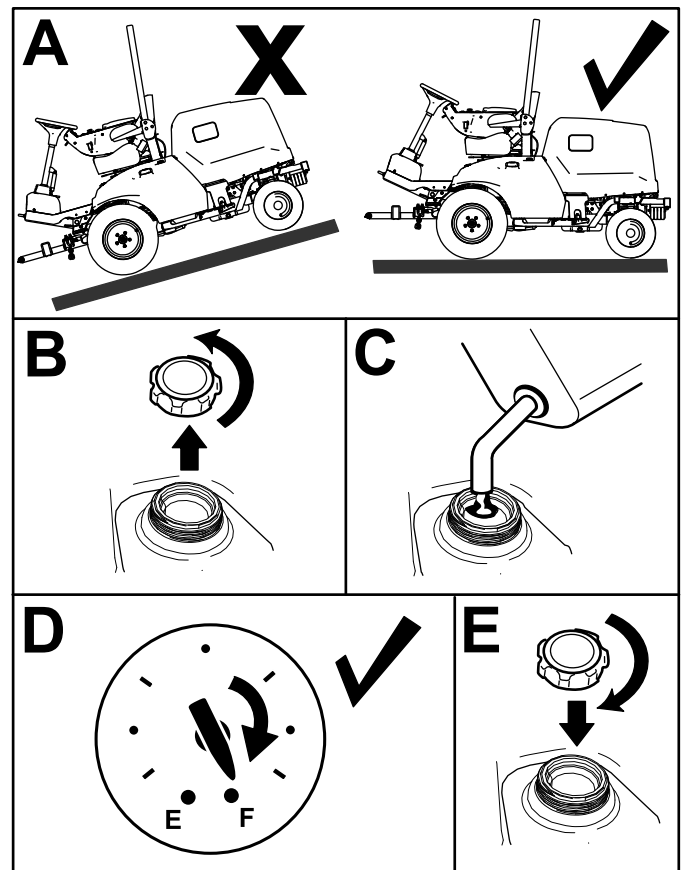

Figure 28
1. Park the machine on a level surface (Figure 28), engage the parking brake, shut off the engine, and remove the key